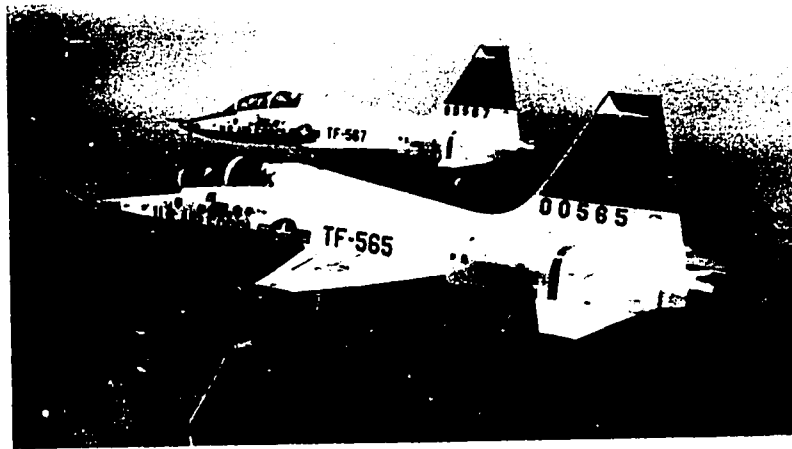

Figure 53. SUPERSONIC TRAINER—Northrop T-38.
3. The Northrop T-38. This one can go supersonic, with a top speed of 850 mph or mach 1.2. This 11,600 pound aircraft has a power plant of two 3,850 thrust pound turbojets with afterburners, set closely side by side in the tail. It can reach over 55,000 feet altitude (Fig. 53).